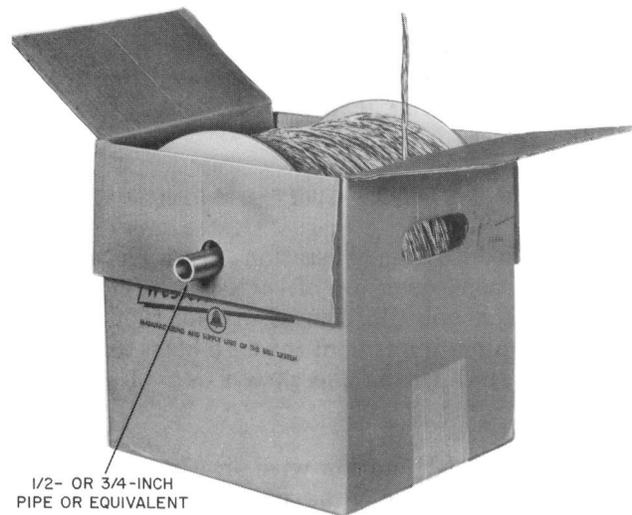

Fig. 3—Carton Used as Reel Support for G or H Station Wire
- 3.01 To dispense G and H station wire from carton-type spool, open top of carton and fold sides down to match holes in side of carton; then insert pipe or equivalent implement through holes in carton and hole in spool, using the carton as reel support (Fig. 3).